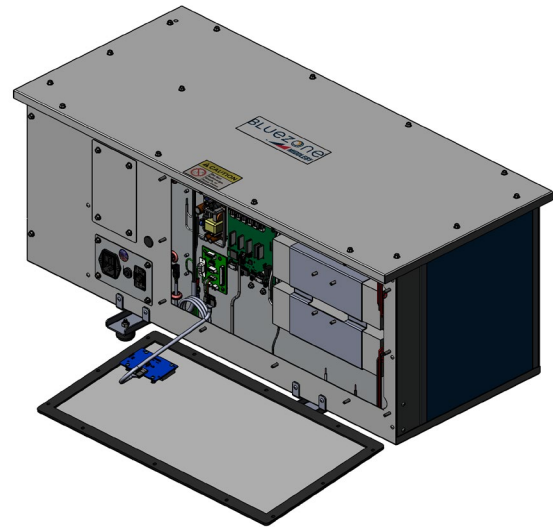

Figure 9: Carefully Remove and Lower Access Panel to Table
3. Orient the Model 450 as shown in Figure 9 with the fan end facing the air baffle. Roughly center the Model 450 into the opening, with the mounting feet channels directly above the 10-32 mounting nut of the mounting rail. Note: Once the Model 450 is inserted fully, the sealing foam segments on either end will grip the chassis making it difficult to adjust its position.
4. Gently push the Model 450 chassis approx. $\frac{3}{4}$ the way into the Ceiling Mount structure. Place the (4) rubber feet over the holes in the ceiling mount rails, rounded side down. Place the four (4) 10-32x 1.25 long screws (supplied) through the holes of the Model 450 mounting channels.